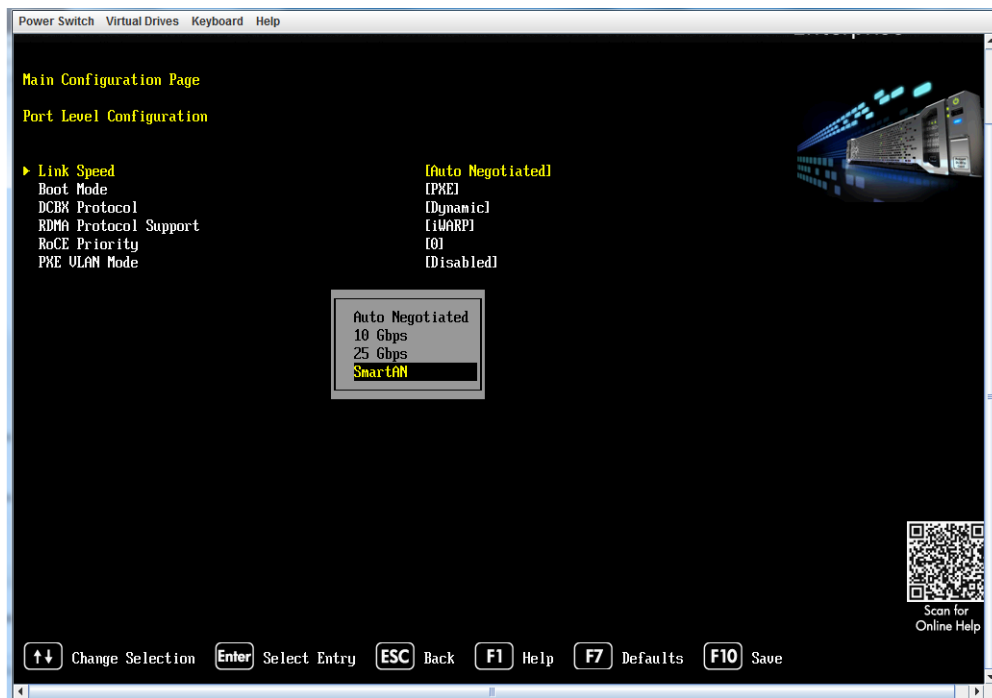

Figure 4-4. Link Speed Selection
6. From the Port Level Configuration page, select **Link Speed**, and then select **SmartAN** (Figure 4-4).